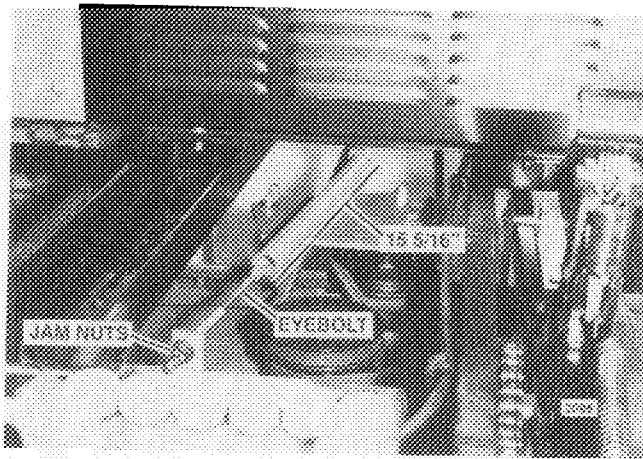

FIG. 8. Drive Belt Tensioning Spring Adjustment
2. Check that drive belt spring length is 15 5/16 inches (Fig. 8). to insure proper drive belt tension. Adjust locknut on eyebolt as necessary. Spindle belt spring is not adjustable.
6. To install new belt, reverse above steps. Adjust length of tension spring to 15 5/16 inches (Fig. 8).
2. Loosen drive belt adjustment eyebolt and remove tension spring (Fig. 8).
6. To install belt, reverse above steps. Adjust length of drive belt tension spring to 15 5/16 inches (Fig. 8).
1. Loosen drive belt adjustment eyebolt and remove tension spring - save parts (Fig. 8).